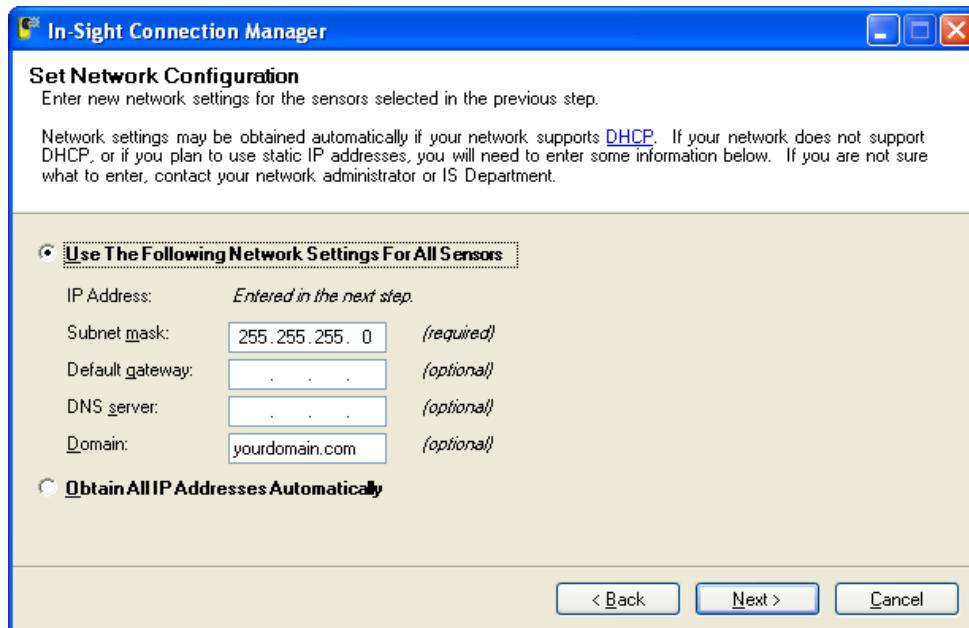

Figure 4-4: Set Network Configuration Dialog
9. In the Set Network Configuration dialog (Figure 4-4), select the first option, “Use The Following Network Settings For All Sensors”.